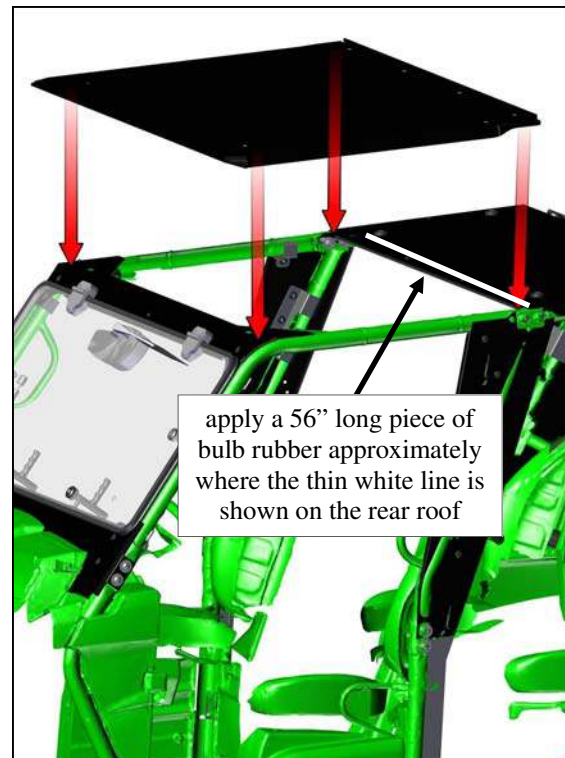

Fig. 5.4a
**5.4** Read this entire step first before taking action. See figures 5.4a, b, and c. Once the rear roof is in place, temporarily place the front roof in place and mark where the roofs overlap. Apply the supplied Arch PSA bulb rubber (.20" wide x .15" tall) to the top, front surface of the rear roof so that it is barely underneath the back edge of the front roof. The roofs overlap a lot, but it is suggested to keep the rubber seal as far to the rear of the vehicle as possible and still have it underneath the front roof. Note: apply the pressure sensitive adhesive bulb rubber to a clean, dry surface at room temperature for best adhesion.